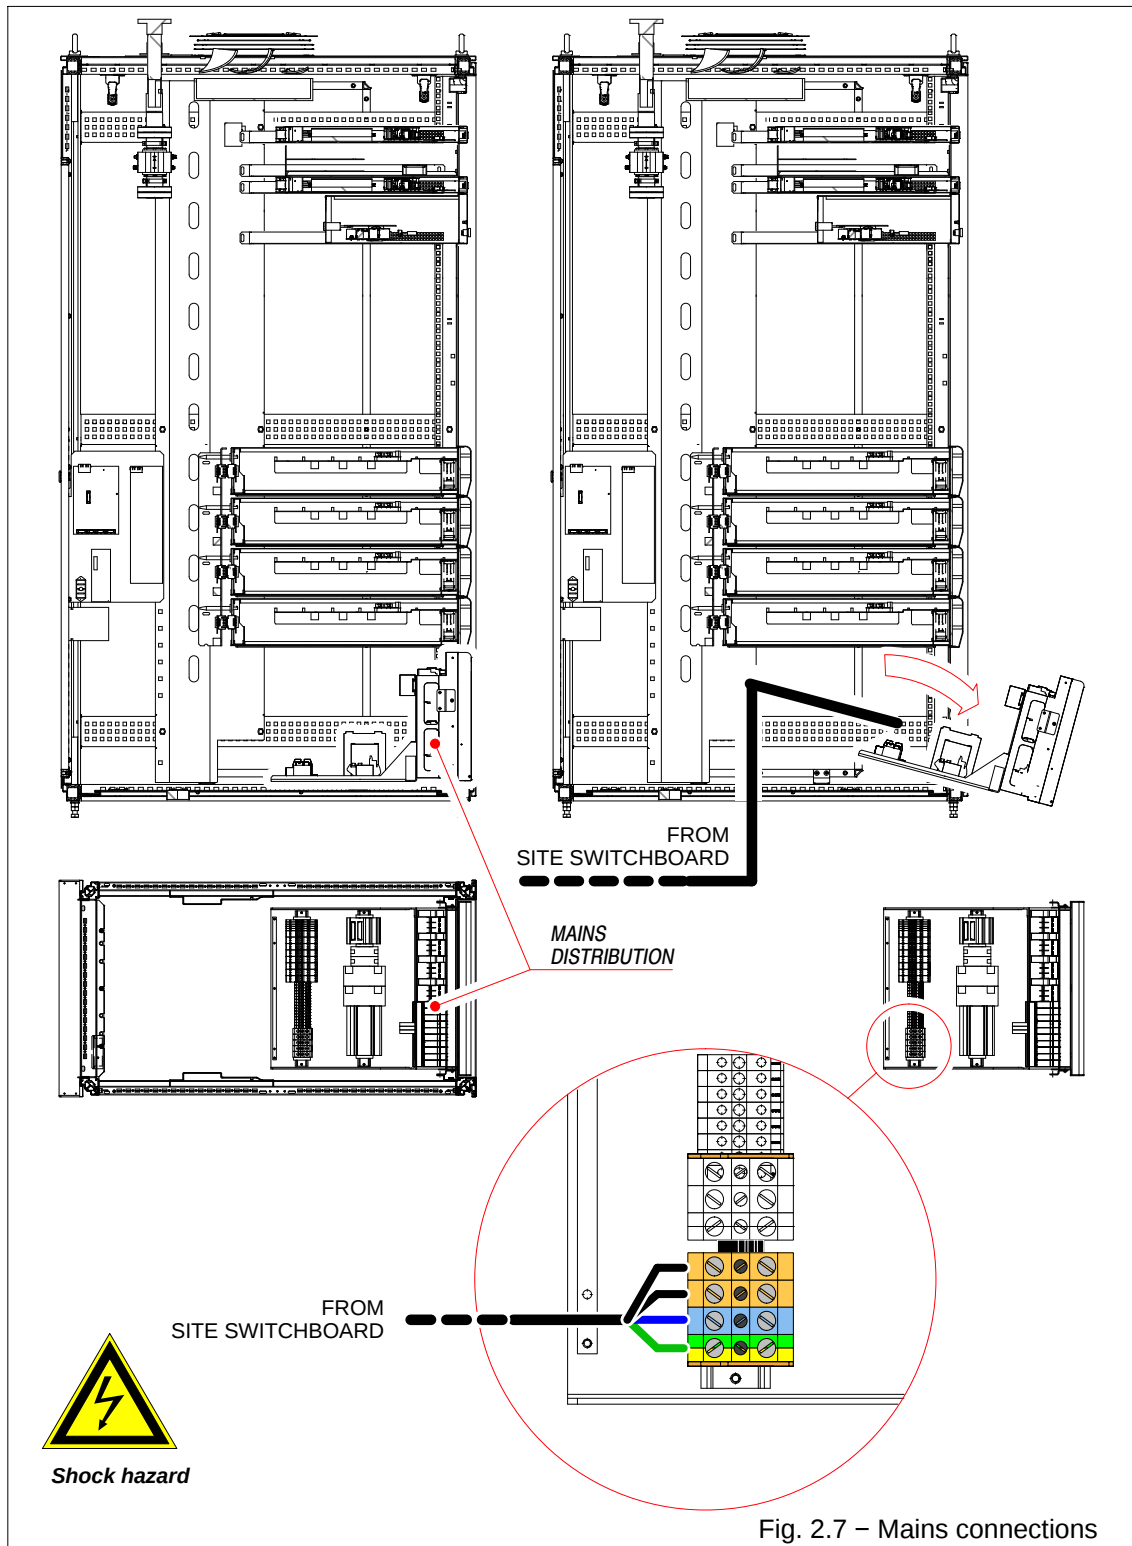

Fig. 2.7 – Mains connections
### 2.2.6 Mains connections (refer to Fig. 2.7 and wiring diagram of the transmitter)
Mains supply must be connected to K1 terminal blocks of *Mains Distribution* unit. Refer to Fig. 2.7 and to TX wiring diagram for carrying out the mains connections. Following the indications drawn on each terminal block, connect the cables (L1, L2, L3, N) of the three-phase mains and ground cable (PE) to the terminal block inside *Mains Distribution* unit.